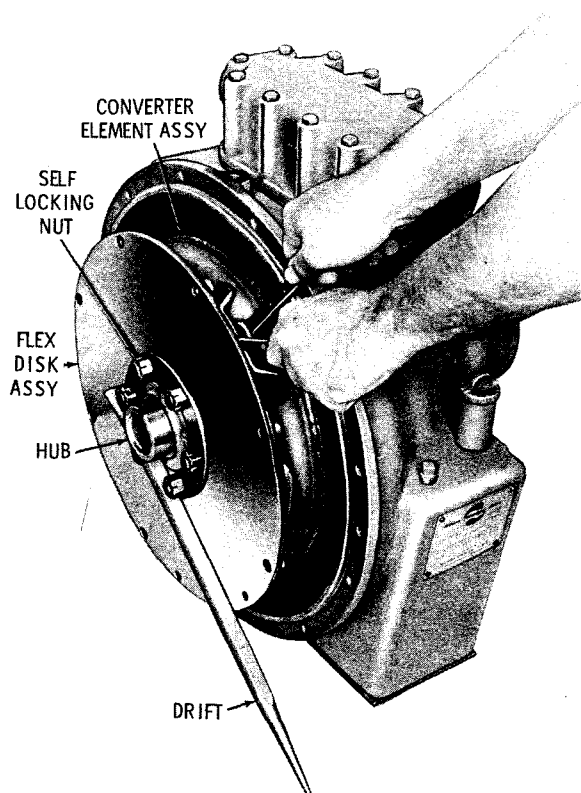

Fig. 5-6. Removing flex disk assembly bolts
The converter may be driven by a gear and cover (fig. 5-1) or by a flex disk assembly (fig. 5-6). The removal of the gear and cover is described in (1), below. The flex disk assembly is described in (2) and (3), below.
(2) Remove three bolts and three nuts from the front of the converter (fig. 5-6). Remove the disk assembly and the hub. Use a bar as shown, to prevent converter rotation.
(3) Remove six self-locking nuts (fig. 5-6) that secure the disks to the hub. Separate disks 3 (A, foldout 4), plate 2, disk and washer assembly 4, drive hub 7, plate 8 and bolts 9.
(1) Remove twenty-four nuts 4 (A, foldout 5) from gear and cover assembly 5 or 8. Remove the cover. Remove sealring 3 (after S/N 23241) from the cover. Remove thrust washer 7 (before S/N 13596).
(2) Remove six self-locking bolts 55 (A, foldout 6) from the front of the torque converter. Use a bar in the manner shown in figure 5-6 to prevent the converter from rotating.
(3) Remove flex disk plate 56 (A, foldout 6), flex disks 57, and disk and washer assembly 58.
(4) Remove twenty-four locknuts 59 and cover 61 or cover assembly 60 from the converter pump.